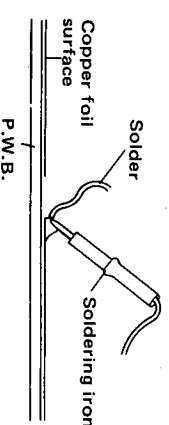

Figure 20-7
- Temporarily solder one terminal of the tip on the copper foil surface. See Fig. 20-7.